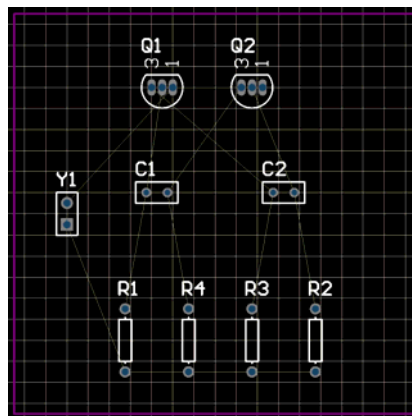

Figure 6. Components placed on the board with new footprints.
2. Double-click on the capacitors and change the Footprint field to **RAD-0.1** in the *Component* dialog. You can simply type in the new footprint name, or press the ... button and select a footprint from the *Browse Libraries* dialog. Click **OK** and the new footprints are displayed on the board. Reposition the designators as required. Your board should now look like the PCB design in Figure 6.